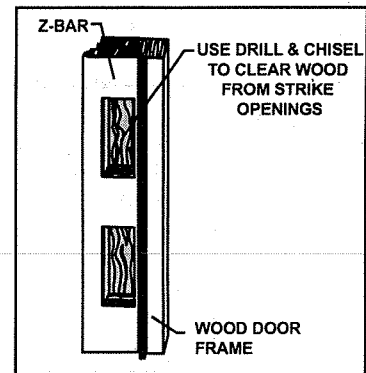

FIGURE 6
Install spring latches to passive door at head using spacer and screws provided. Base of latch should be 1/4" down from head channel. (Figure 6)
A. Using a drill and chisel, clear the wood from the strike openings behind the "Z" bar a minimum of 3/4" deep. See Fig. 6.